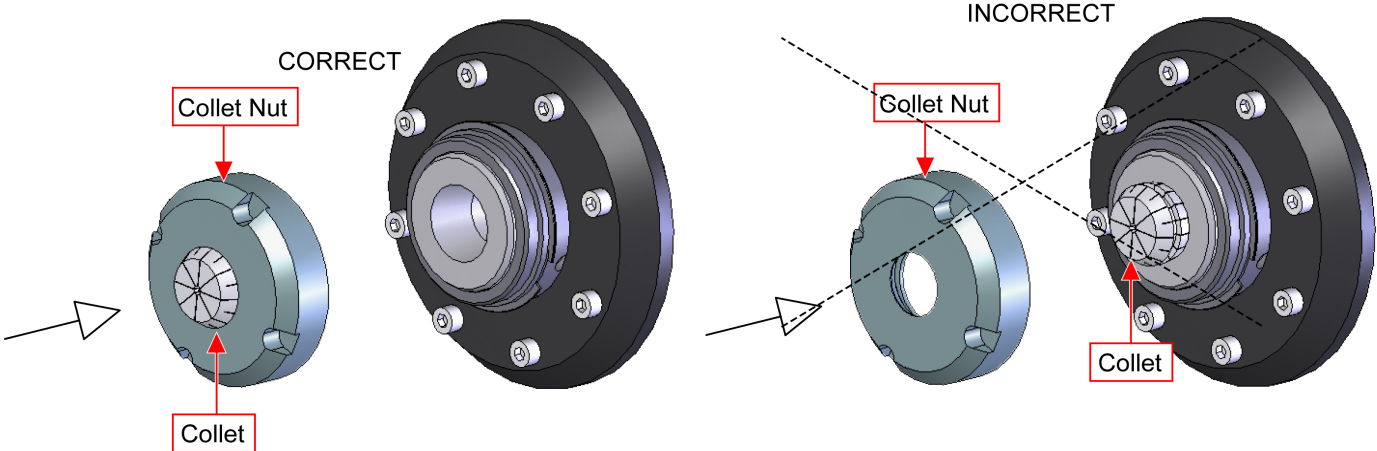

Figure 2-3: Installation Procedure for Collet
- Step 6: Use the collet nut to guide the collet into the stage (Figure 2-3). Make sure that the collet seats properly in its taper. Be sure that air pressure is still being supplied to the stage so the collet chuck is in the open position.